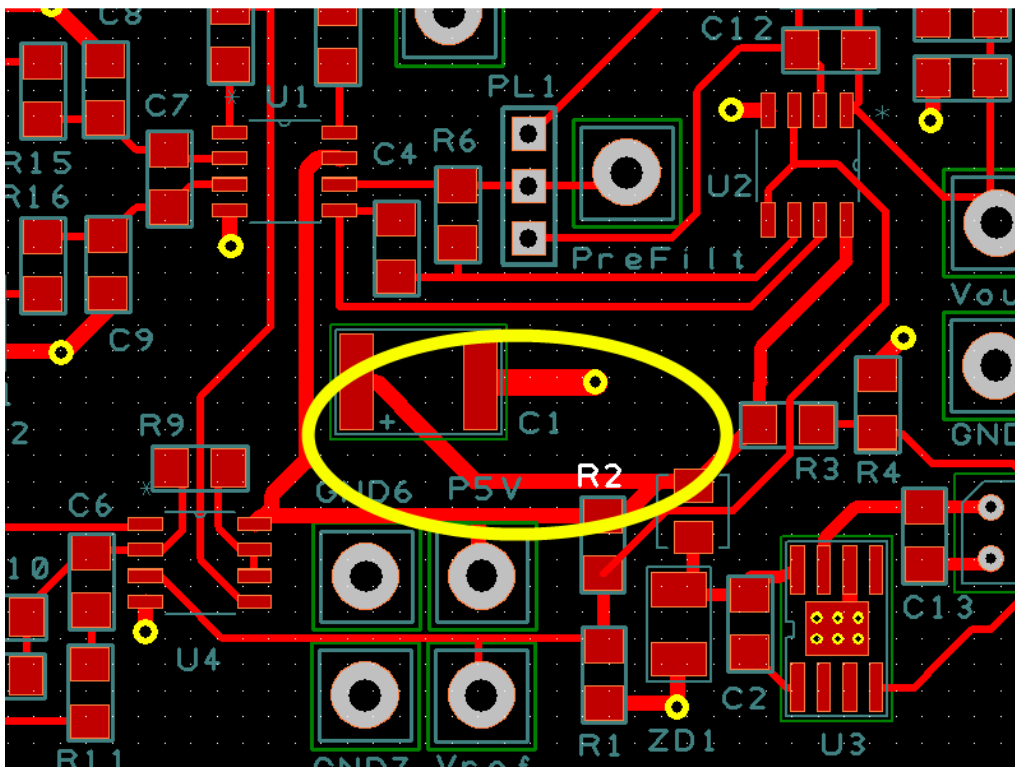

Figure 1. Long trace for connecting capacitor to power
1. **Avoid long traces.** Long traces are inherently more resistive than short traces. Below in Figure 1 shows a bad example of how to lay out a component. There is a long trace between power and the capacitor (which is polarized). Figure 2 shows that it is possible, by rotating the capacitor 180° and moving it to the right, to make the trace much shorter so as to result in a lower impedance for the trace.